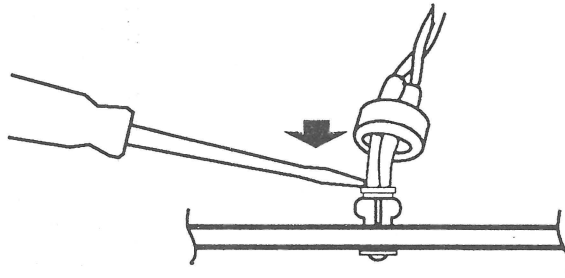

FIGURE 15
1. If necessary, slip the LED into its holder and snap it into place with a jeweler's screwdriver (Figure 15).